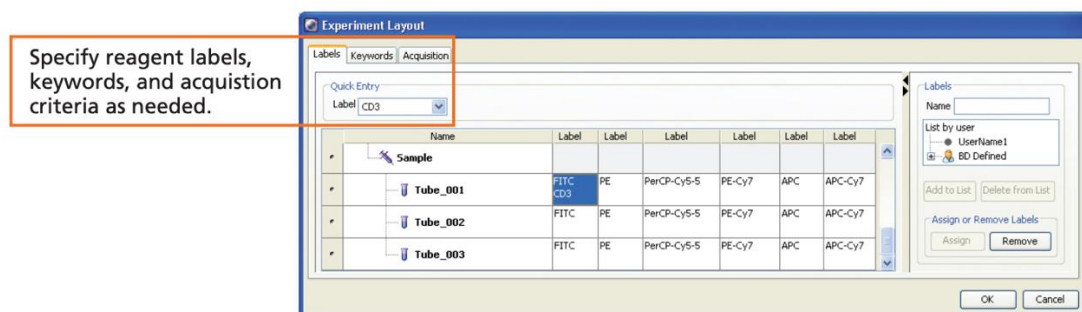

Figure 6 - Experiment Layout Window
10. Select **Experiment > Experiment Layout** to assign a reagent label to each fluorescence detector used (see Figure 6).